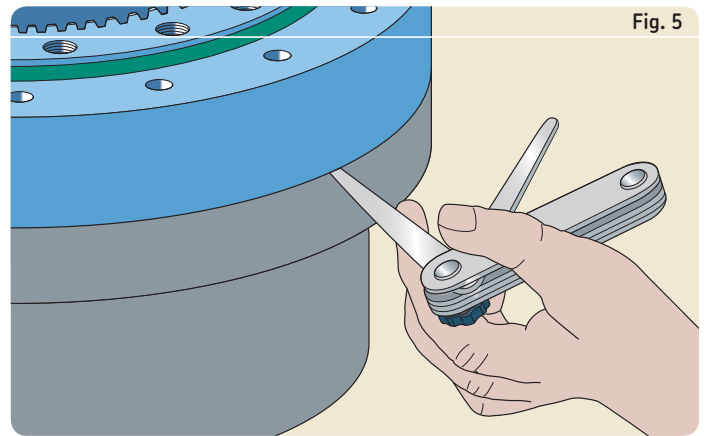

Fig. 5
- 5 Adjust the bearing so that the bolt holes in the ring coincide with those of the support structure. Check that the bearing is level over the entire seat surface (→ **fig. 5**).